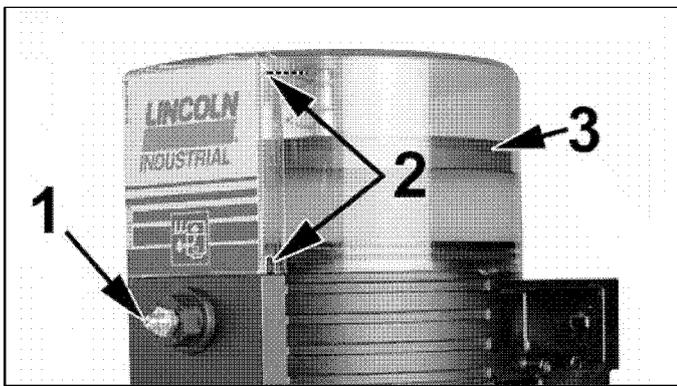

Fig. 14-1 Fill pump reservoir up to the "Max." mark 4231a99
- Make sure that all air has been expelled from under the follower plate 3 (Fig. 14-1) after refilling the empty reservoir.